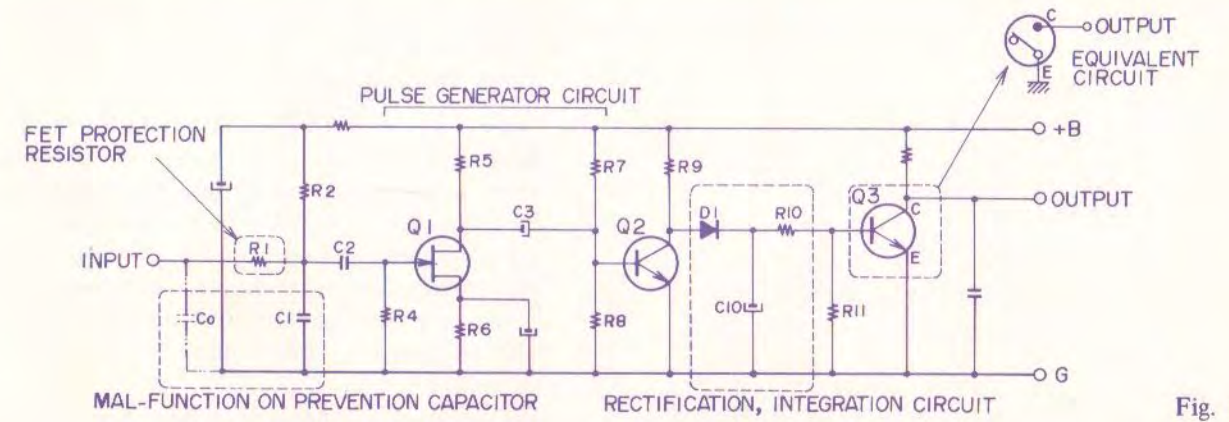

Fig. 13
1. TOUCH BUTTON SYSTEM CIRCUIT COMPONENT (Refer to Fig. 13)
As shown in Fig. 13, generally divided, the touch button system circuit is comprised of a pulse generator circuit, a rectifier circuit, and an integration circuit and includes a malfunction prevention capacitor and FET protection resistor, etc.